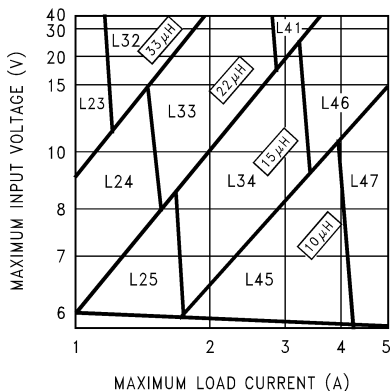
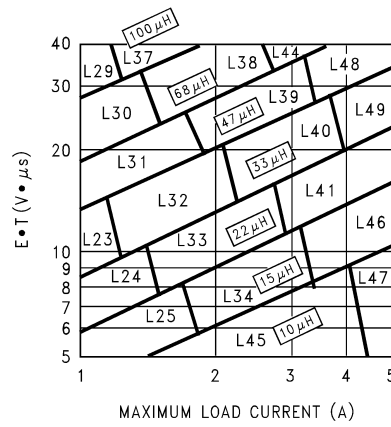

Figure 21. LM2678-3.3
Figure 24. LM2678-ADJ
**Step 3:** Determine the inductor required by using one of the four nomographs, Figure 21 through Figure 24. Table 1 provides a specific manufacturer and part number for the inductor.
**Step 5:** Determine an input capacitor from Table 6 for fixed output voltage applications. Use Table 3 to find the specific capacitor type. For adjustable output circuits select a capacitor from Table 3 with a sufficient working voltage (WV) rating greater than  $V_{in\ max}$ , and an rms current rating greater than one-half the maximum load current (2 or more capacitors in parallel may be required).
**Step 3:** Use the nomograph for the 3.3V device, Figure 21. The intersection of the 16V horizontal line ( $V_{in\ max}$ ) and the 4A vertical line ( $I_{load\ max}$ ) indicates that L46, a  $15\mu\text{H}$  inductor, is required.
**Step 3:** To use the nomograph for the adjustable device, Figure 24, requires a calculation of the inductor Volt•microsecond constant ( $E \cdot T$  expressed in  $V \cdot \mu S$ ) from the following formula:
Using Figure 24, the intersection of  $27V \cdot \mu S$  horizontally and the  $3.5A$  vertical line ( $I_{load \max}$ ) indicates that L48, a  $47\mu H$  inductor, or L49, a  $33\mu H$  inductor could be used. Either inductor will be suitable, but for this example selecting the larger inductance will result in lower ripple current.
When using the adjustable device in low voltage applications (less than  $3V$  output), if the nomograph, Figure 24, selects an inductance of  $22\mu H$  or less, Table 12 and Table 13 do not provide an output capacitor solution. With these conditions the number of output capacitors required for stable operation becomes impractical. It is recommended to use either a  $33\mu H$  or  $47\mu H$  inductor and the output capacitors from Table 12 and Table 13.